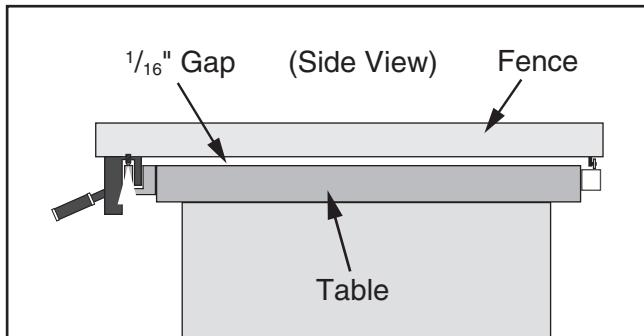

Figure 127. Example of even gap between fence and table approximately $\frac{1}{16}$ " front to back.
- If gap is approximately $\frac{1}{16}$ " and even from front of table to back (see **Figure 127**), then no additional adjustments are necessary. Proceed to **Fence Handle Clamping Pressure** on this page.